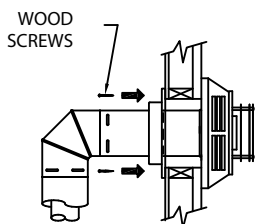

Figure 9
**Step 7.** Slide the Wall Thimble Cover up to the wall surface and attach to the wall with screws provided **(Fig. 9)**. Apply optional decorative brass trim to Wall Thimble Cover, if desired.